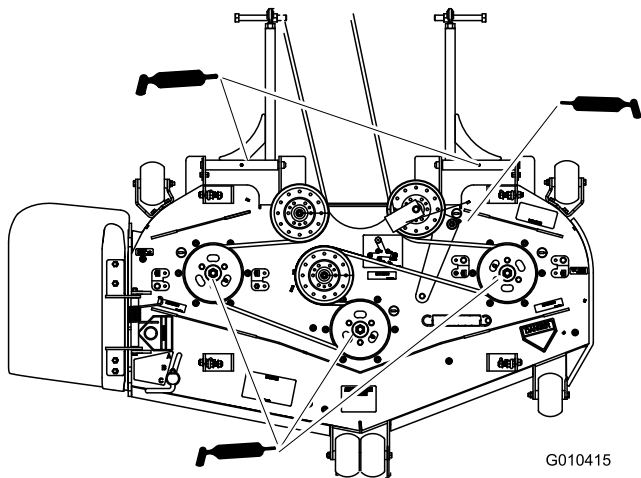

Figure 40
6. Grease the 3 spindle bearings until grease comes out the lower seals (Figure 40).
7. Grease the idler arm on the mower deck (Figure 40).
8. Grease the fittings on the push arms (Figure 40).